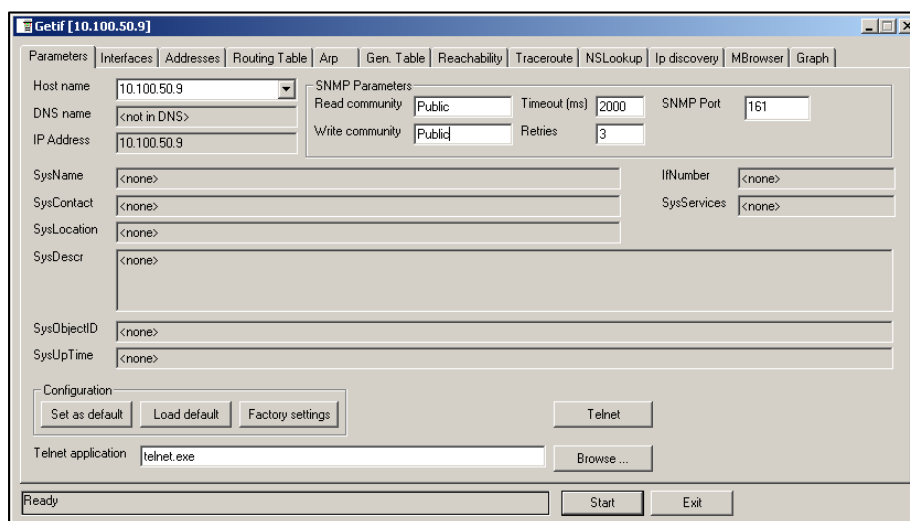

Figure 7-16: GetIf Application Parameters Tab
3. Select the unit IP address and community strings in the relevant text boxes on the Parameters tab (see **Figure 7-16**) and then click the Start button.